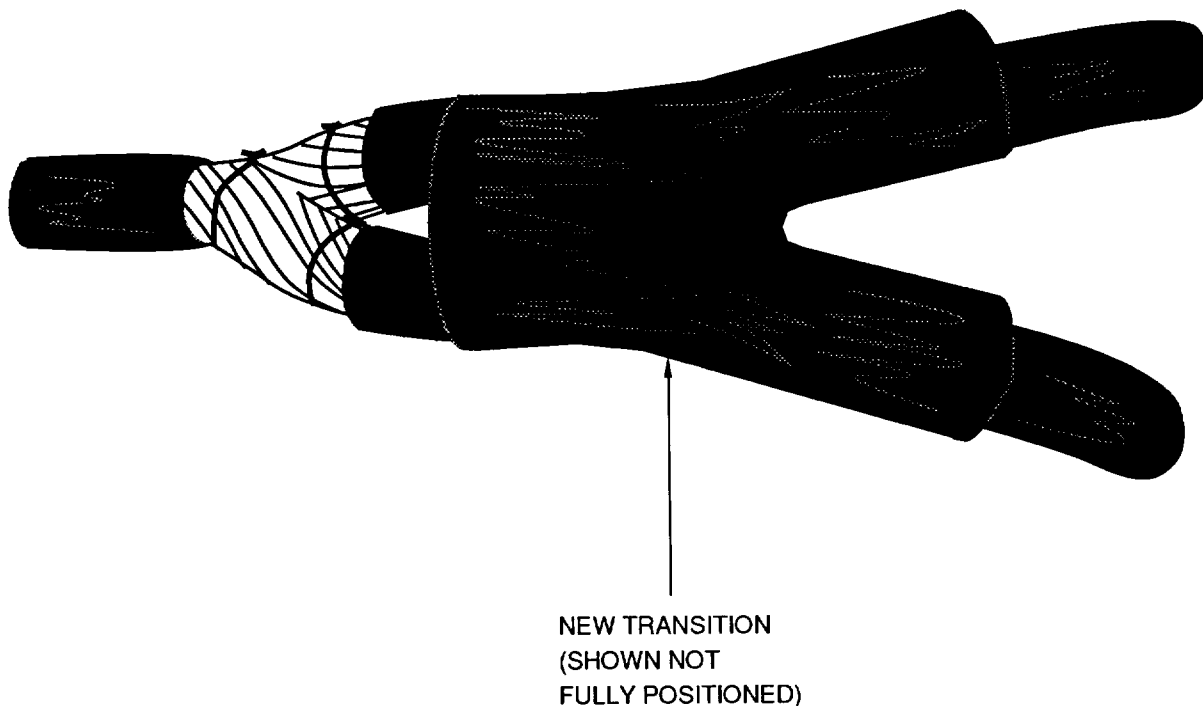
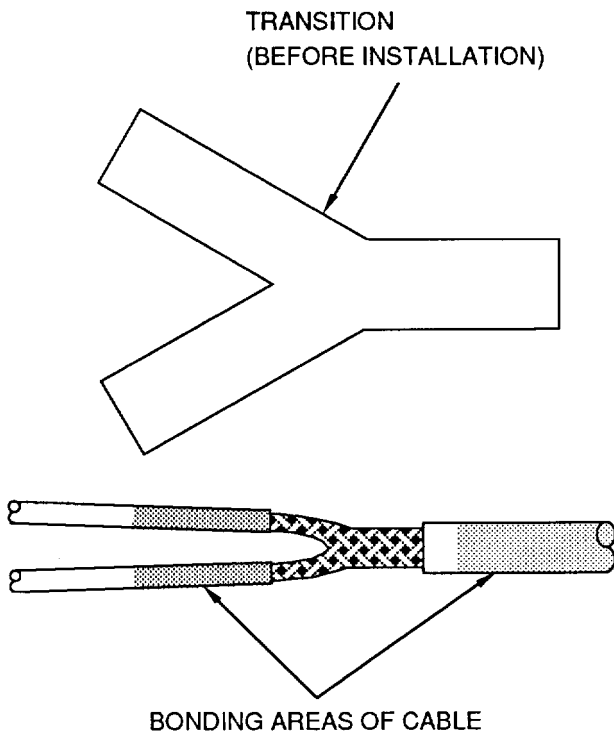

Figure 21. Transition Installation
Figure 22. Adhesive Application
g. Slide new transition over harness (Figure 21)
(1) If connector and boot are too large to permit transition to pass over remove connector in accordance with WP 022 00 and WP 025 00.
h. Apply adhesive to bonding areas (Figure 22)
(1) Install boot (Paragraph 24).
(2) Install connector in accordance with WP 022 00 and WP 025 00.